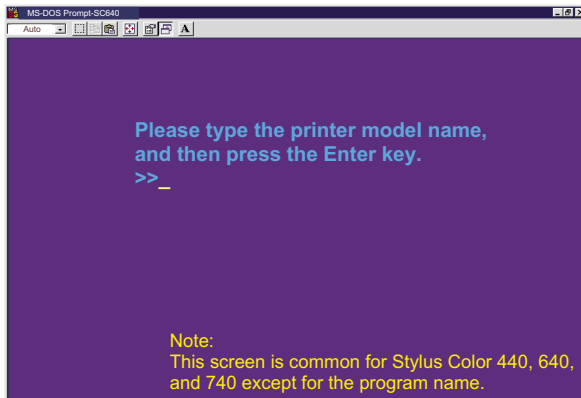

Figure 5-10. Model Name Input Screen
- If you mistype the model name, the program will automatically return to the model name input screen (Figure 5-10).